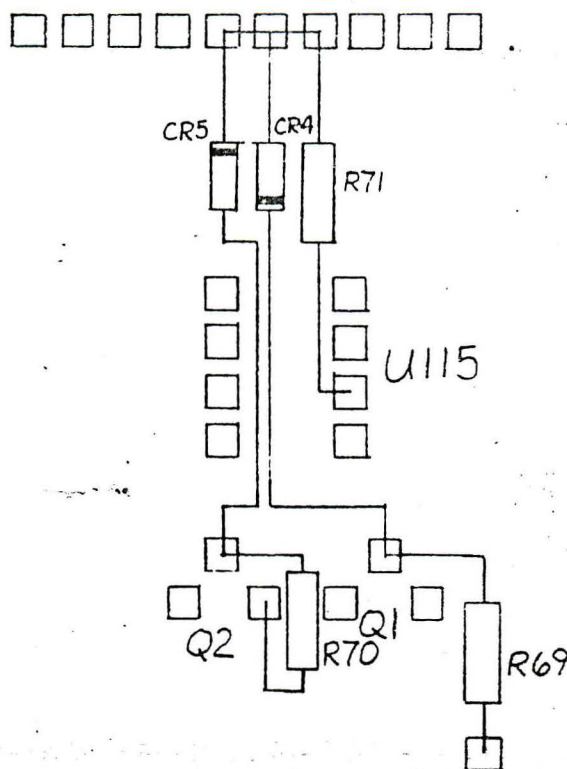

Figure 1 (Shown looking at the bottom of the printed circuit board)
13. Refer to Figure 1. On the underside of the printed circuit board install